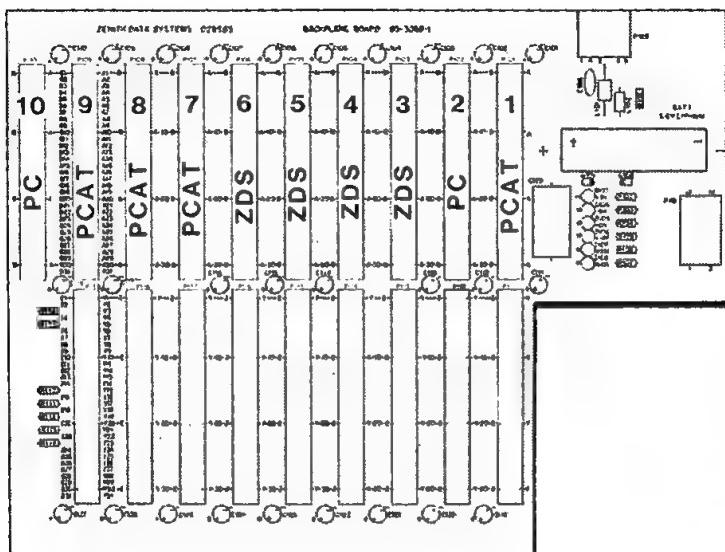

Figure 1-2: Computer Backplane
- Backplane — The backplane has four slots that house two 62-pin connectors (Zenith slots), four slots that are IBM PC AT compatible and two slots that are IBM PC-compatible. Refer to Figure 1-2 for location of the numerically referenced backplane slots. The edge connectors in the slots accept the cards, and interface them to a 16-bit PC AT compatible bus and an 8-bit PC-compatible bus.
- CPU/RAM card — This card is located in slot number 3 (Figure 1-2) on the backplane. The CPU portion of the card uses the 16-bit 80286 microprocessor and supports the 80287 numeric processor extension. Logic required to generate 16-bit bus control signals, address and data buffering, and data directing is contained on the CPU portion of this card. The CPU runs with one wait state added to all memory cycles for PC AT speed compatibility.